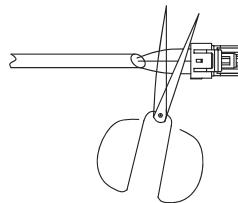

Fig. 17 —Shearing Outdoor Connector
1. Cut the connector on the outdoor unit side as shown in Fig. 17.